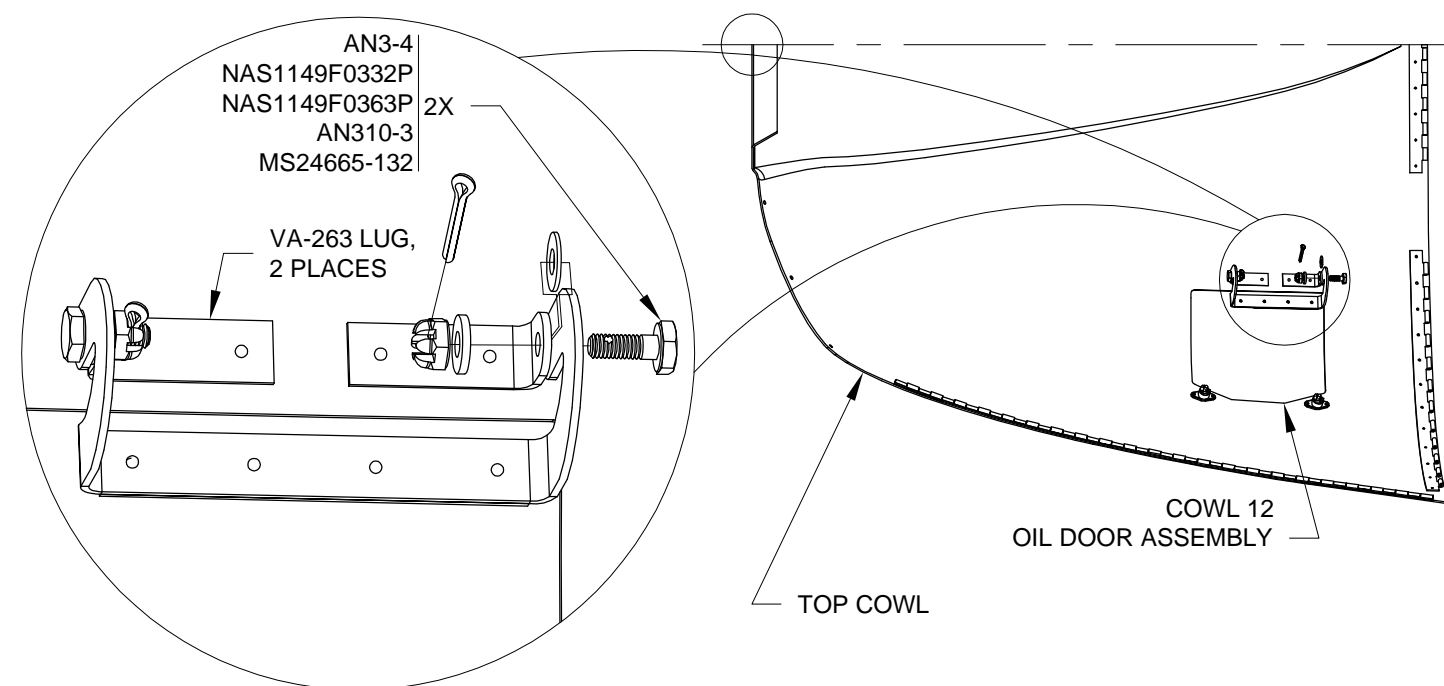

FIGURE 1: OIL DOOR ASSEMBLY INSTALLATION
Step 1: Reattach the Cowl 12 Oil Door Assembly to the oil door hinge lugs using the hardware called out in Figure 1. Tighten the nuts until the play is gone and the door will stay open on its own. Close the oil door and secure the camlocks.